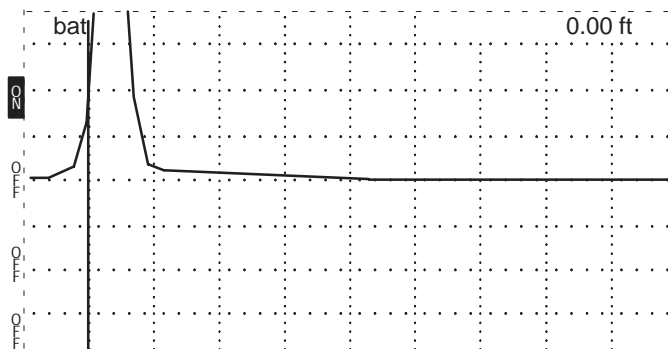

Figure B-1: Start-up Measurement Display
1. Turn the 1503C power on. The display should look very similar to Figure B-1.